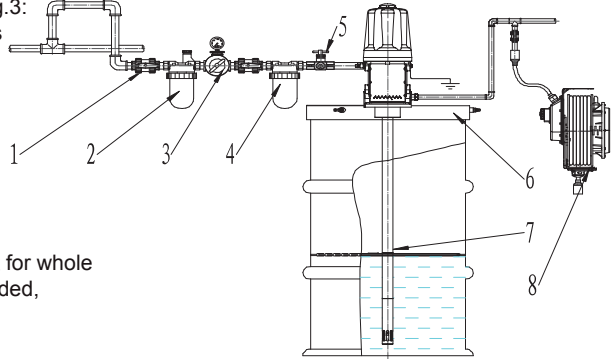

Fig.3: Oil supply system installation
Typical installation refers to Fig.3:
- Install a pump on drum cover (See fig.3 part 6), and then to barrel.
- On the main line of air compressor, connect bleed-type master air valves which controls on and off air motor (See fig.3 part 1).
- Install an air line filter (See fig.3 part 2). Remove harmful dirt and contaminants from your compressed air supply.
- Install the air regulator to control pump speed and pressure (See fig.3 part 3).
- Install an air line regulator for automatic air motor lubrication (See fig.3 part 4).
- Install a pump run-away valve to shut off the air to the pump if the pump accelerates beyond the pre-adjusted setting. A pump that runs too fast can be seriously damaged (See fig.3 part 5).